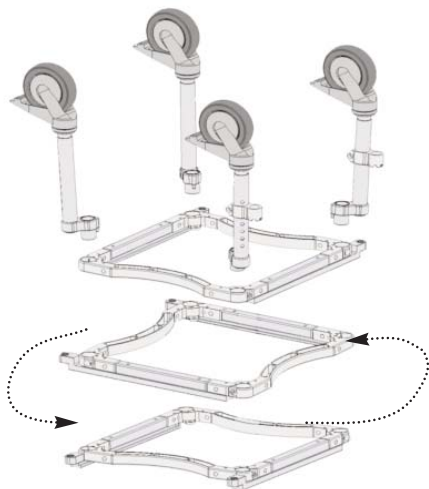

Figure 8
- 1) Remove the commode section legs from the frame (Refer to Figure 8)
- 2) Rotate the frame 180 degrees (Refer to Figure 8)
- 3) Re-install the legs (Refer to Figure 8)